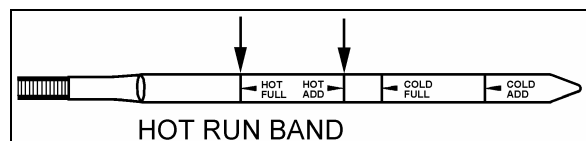

FIGURE 6: HOT CHECK
2. Park the vehicle on a level surface and shift to Neutral (N). Apply the parking brake and allow the engine to idle (500 - 800 rpm).
5. If the level **is not** within this band, add or drain fluid as necessary to bring the level within the HOT RUN band. (Fig. 6).